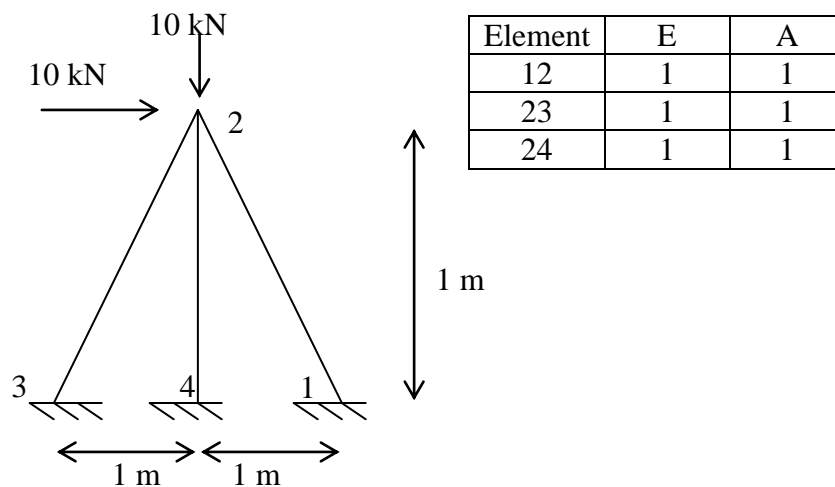

Figure 5
6. A two dimensional structure in Figure 5 has dimensions in arbitrary units. Using Finite Element Method, determine